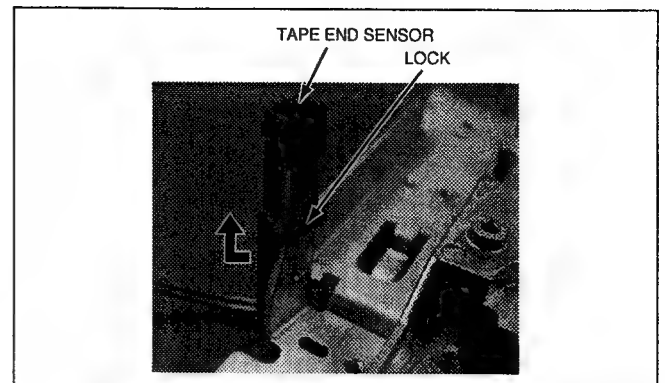

Fig. M-35
- Fig. M-35 Unlock the locking portion and remove the Tape End Sensor.